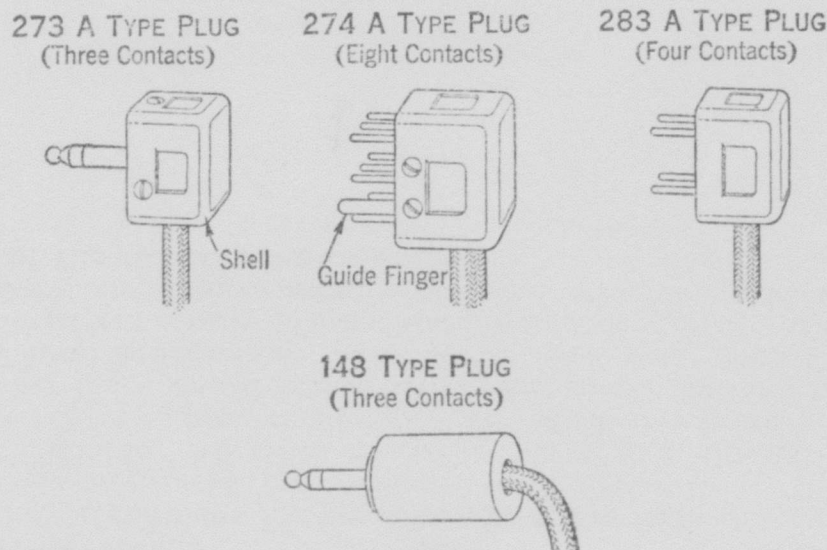

Fig. 3
2.06 Plugs of the types referred to herein are shown in Fig. 3.